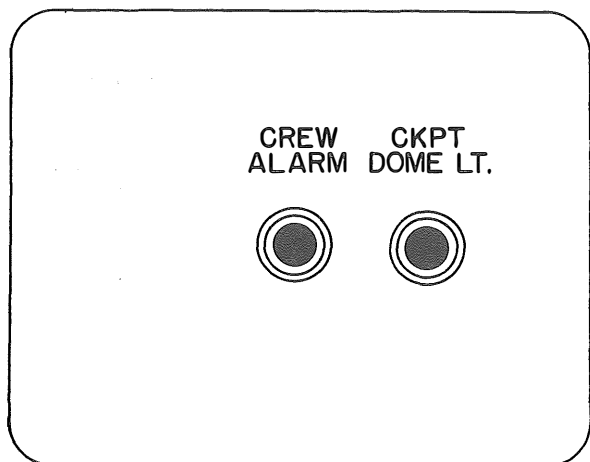
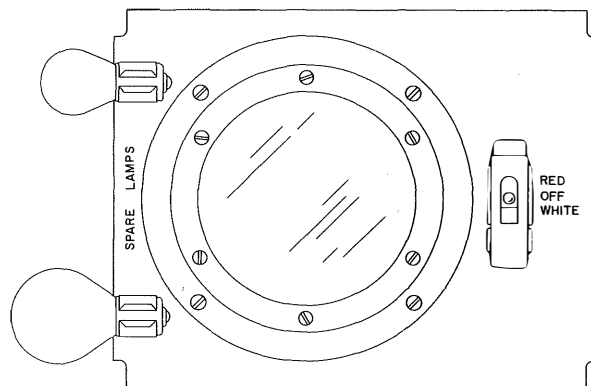

Figure 7-13. Battery Bus Circuit Breaker Box
Figure 7-15. Electronics Compartment Dome Light
compartment dome light panel (figure 7-15). A cockpit spotlight, which also serves as an emergency instrument floodlight, is mounted on the forward end of the overhead control panel and is controlled by a switch on the light itself. A second spotlight is mounted in the aft end of the cabin and is operated in like manner. The cockpit dome light and spotlight operate from the battery supply circuit through the "CKPT DOME LTS" circuit breaker on the battery bus circuit breaker box (figure 7-13) in the electronics compartment. The cabin dome lights and spotlight and the electronics compartment dome light operate from the secondary supply circuit through the "CABIN DOME LTS" circuit breaker on the overhead electrical fuse and circuit breaker panel (figure 7-7).
7-189. DESCRIPTION. (See figure 7-11.) Three oil level inspection lights are provided, one for the primary hydraulic system reservoir (7), one for the auxiliary hydraulic system reservoir (23) and one for the main gear box (8). Light switches are mounted adjacent to the lights and the lights operate from the battery supply circuit through the "CKPT DOME LTS." circuit breaker on the battery bus circuit breaker box (figure 7-13) in the electronics compartment.
7-201. CREW ALARM BELL. The crew alarm bell (12, figure 7-1) is located on the aft bulkhead in the cabin. It is controlled by the guarded "CREW ALARM" switch on the overhead switch panel (figure 7-7). Power to operate the bell is taken from the battery supply circuit through a circuit breaker on the battery bus circuit breaker box (figure 7-13).